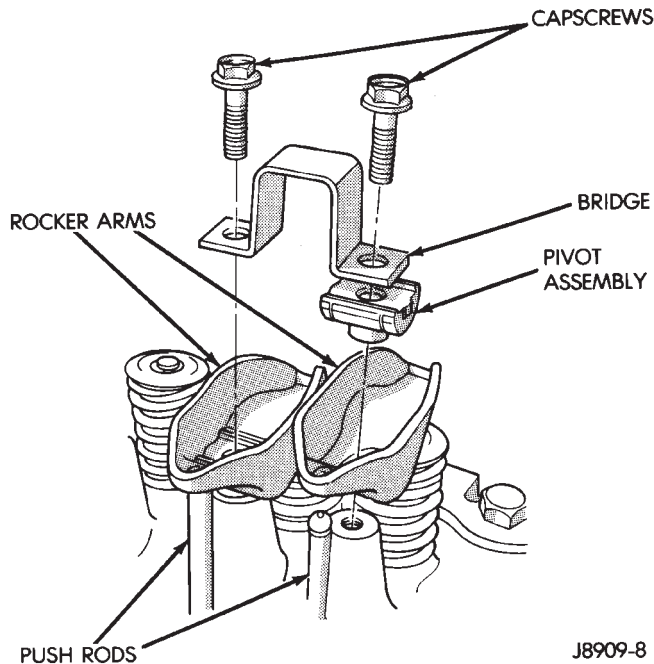
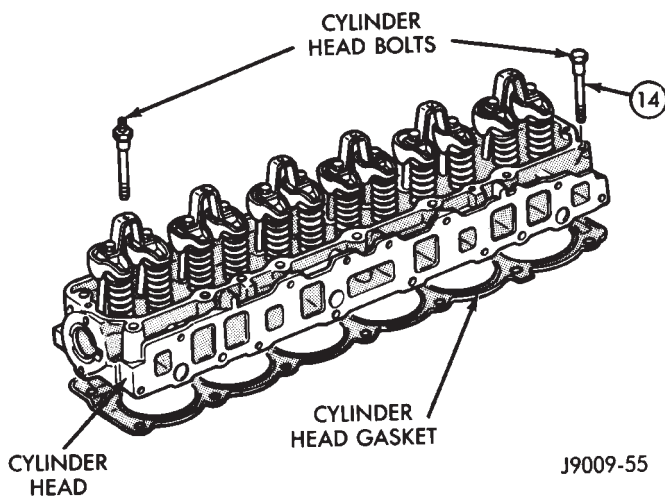

Fig. 13 Rocker Arm Assembly
Fig. 14 Engine Cylinder Head Assembly
- (1) Remove the engine cylinder head cover.
- (2) Remove the capscrews at each bridge and pivot assembly (Fig. 13). Alternately loosen the capscrews one turn at a time to avoid damaging the bridges.
- (3) Check for rocker arm bridges which are causing misalignment of the rocker arm to valve tip area.
- (4) Remove the bridges, pivots and corresponding pairs of rocker arms (Fig. 13). Place them on a bench in the same order as removed.
- (5) Remove the push rods and place them on a bench in the same order as removed.
(2) Drain the coolant and disconnect the hoses at the engine thermostat housing. Do not waste reusable coolant. If the solution is clean and is being drained only to service the engine or cooling system, drain the coolant into a clean container for reuse.
(3) Remove the air cleaner assembly.
(4) Remove the engine cylinder head cover.
(5) Remove the capscrews, bridge and pivot assemblies and rocker arms (Fig. 13).
(6) Remove the push rods (Fig. 13). **Retain the push rods, bridges, pivots and rocker arms in the same order as removed.**
(7) Loosen the serpentine drive belt at the power steering pump, if equipped or at the idler pulley (refer to Group 7, Cooling System for the proper procedure).
(8) If equipped with air conditioning, perform the following:
- (9) If equipped, disconnect the power steering pump bracket. Set the pump and bracket aside. Do not disconnect the hoses.
- (10) Remove the fuel lines and vacuum advance hose.
- (11) Remove the intake and engine exhaust manifolds from the engine cylinder head (refer to Group 11, Exhaust System and Intake Manifold for the proper procedures).
- (12) Disconnect the ignition wires and remove the spark plugs.
- (13) Disconnect the temperature sending unit wire connector.
- (14) Remove the ignition coil and bracket assembly.
- (15) Remove the engine cylinder head bolts. Bolt No.14 cannot be removed until the head is moved forward (Fig. 14). Pull bolt No.14 out as far as it will go and then suspend the bolt in this position (tape around the bolt).
- (16) Remove the engine cylinder head and gasket (Fig. 14).
- (17) If this was the first time the bolts were removed, put a paint dab on the top of the bolt. If the bolts have a paint dab on the top of the bolt or it isn't known if they were used before, discard the bolts.
- (18) Stuff clean lint free shop towels into the cylinder bores.